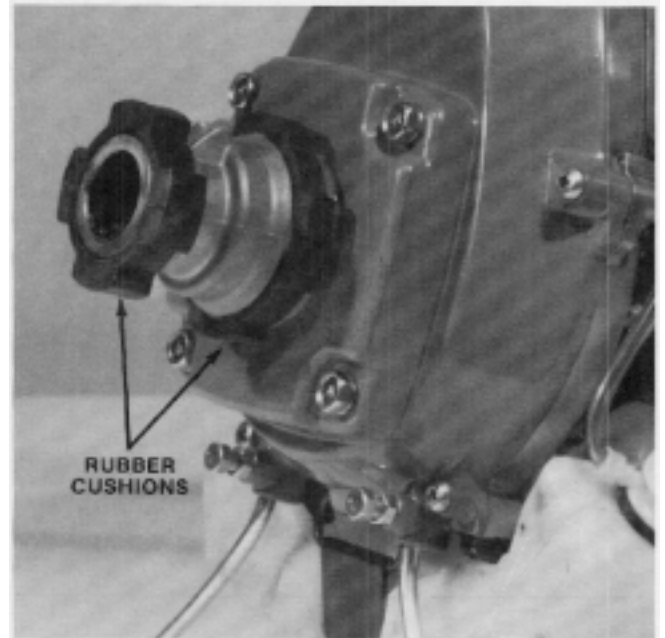

Figure 83
1. Position the rubber cushions on the clutch housing as shown in Figure 83.